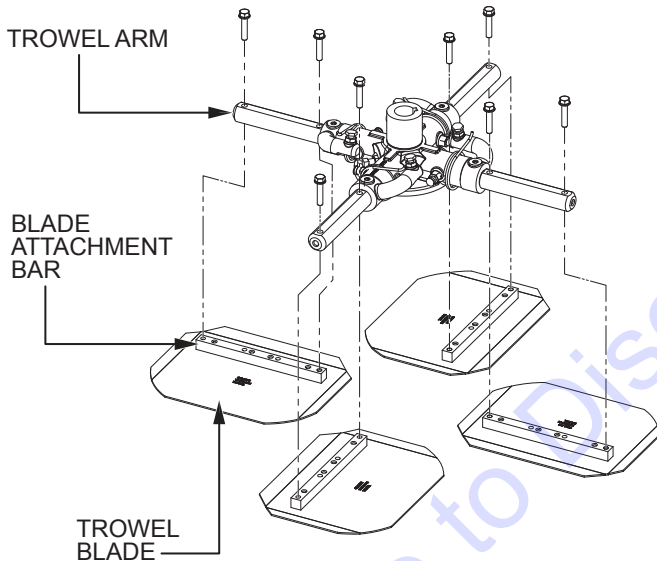

Figure 60. Blade Removal
2. Remove the bolts and lock washers from each of the trowel arms, then remove the blades as shown in Figure 60.